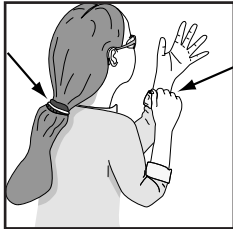

Figure 23. Overview of hold-downs in place.
4. Slide two hold-down brackets into miter slot. Position so they are across from fence mounted hold-downs (see **Figure 23**). Tighten with the knob on top of each miter hold-down.